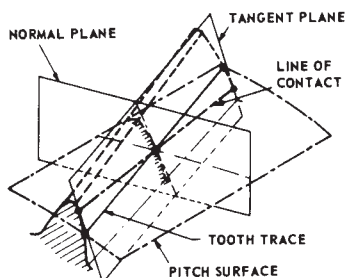

FIGURE 1.8 — NORMAL & TANGENT PLANES
- 1.20 A Normal Plane** is in general normal to a tooth surface at a pitch point, and perpendicular to the pitch plane. (Figure 1.8)
- 1.21 A Tangent Plane** is tangent to the tooth surfaces at a point or line of contact. (Figure 1.8)